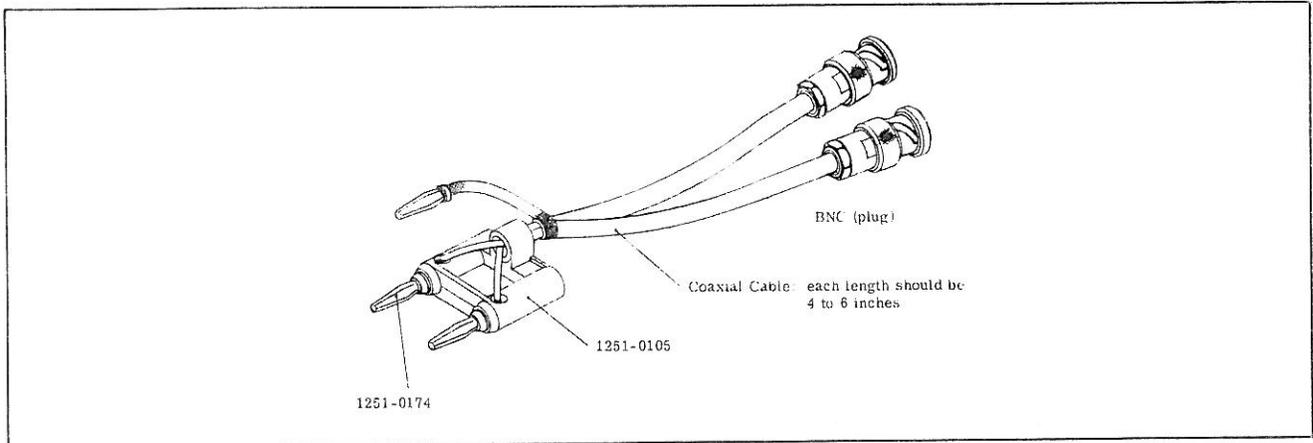
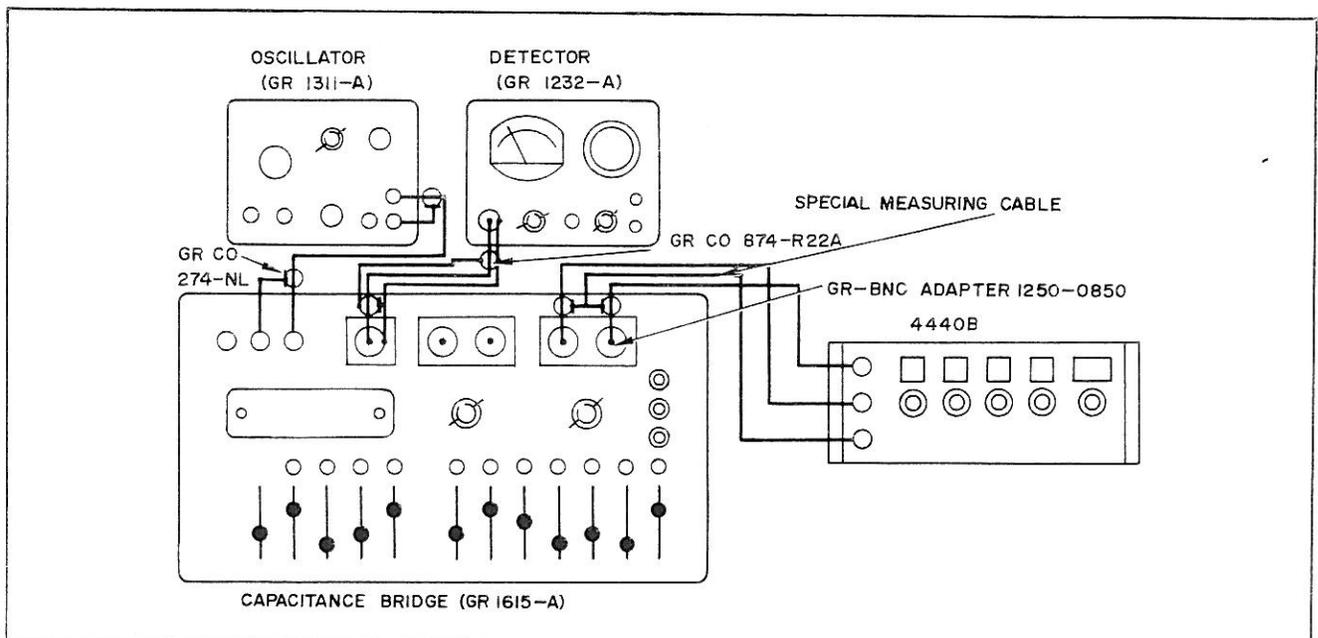

Figure 4-1 Measuring Cable
Figure 4-3. Performance Test Setup
| Measuring Cable | | Performance Test and Calibration | Shown in Figure 4-1 |
4-7. The performance test setup is illustrated in Figure 4-3. An Oscillator (GR Type 1311-A), a Capacitance Bridge (GR Type 1615-A), and a Detector (GR Type 1232-A) are required for this test. In addition, a special measuring cable assembly as shown in Figure 4-1 is required.
- a. Make test setup as illustrated in Figure 4-3.